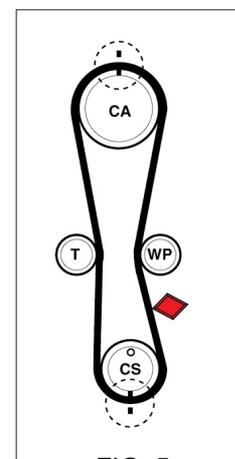

FIG. 5
- 4 Fit tensiometer on the belt at  [FIG. 5].
- 9 Dismount the specific tool and mount the tensiometer [FIG. 5].